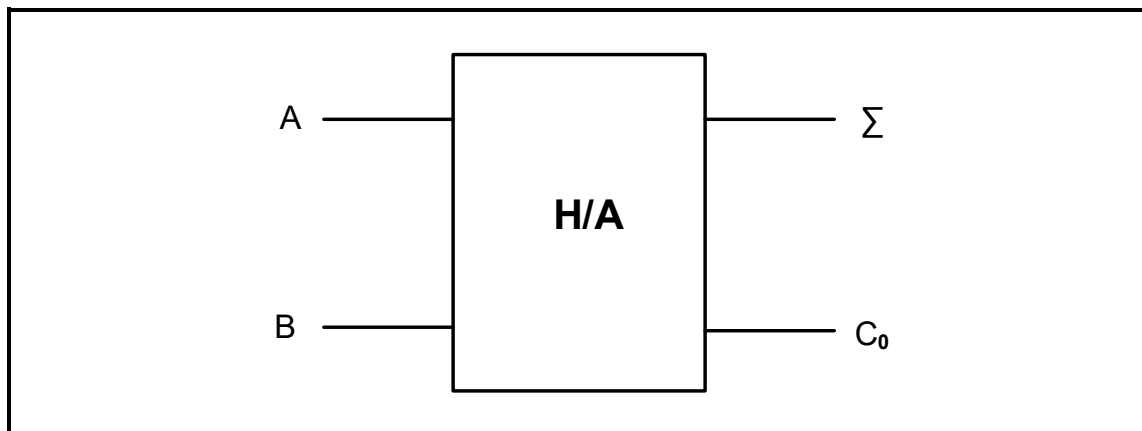

FIGURE 5.4: HALF-ADDER
- 5.4 Refer to FIGURE 5.4 of a half-adder below and answer the questions that follow.
- 5.4.1 Complete and label the logic circuit of the half-adder in FIGURE 5.4 above on the ANSWER SHEET for QUESTION 5.4.1. (6)
- 5.4.2 Complete the truth table for the half-adder in FIGURE 5.4 above on the ANSWER SHEET for QUESTION 5.4.2. (4)